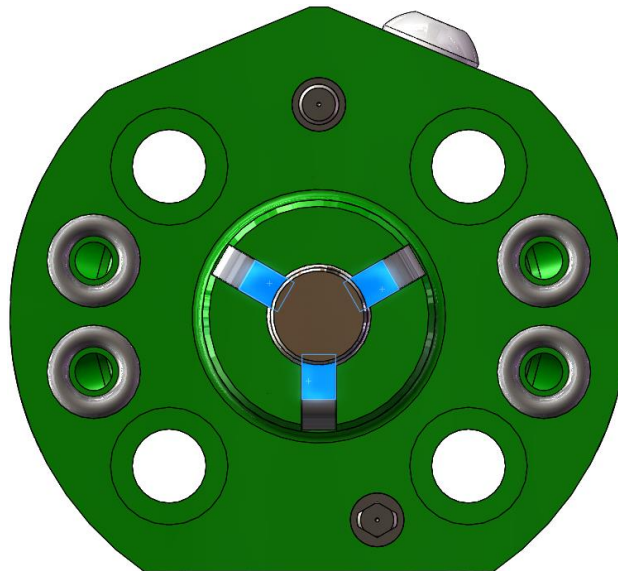

Figure 8.1.1.1-1. E31.5 Robot Side Lubrication – Cams & Driver
2. Apply a liberal coating of white lithium grease to the contact surfaces between the three (3) latching cams and driver, as shown in Figure 8.1.1.1-1 with the surfaces highlighted blue.